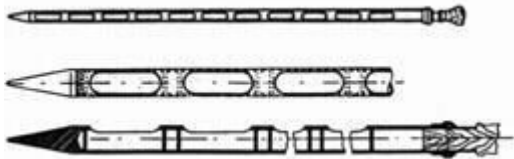

Figure 2
- Bag trier (sacked grains - see Fig. 2)